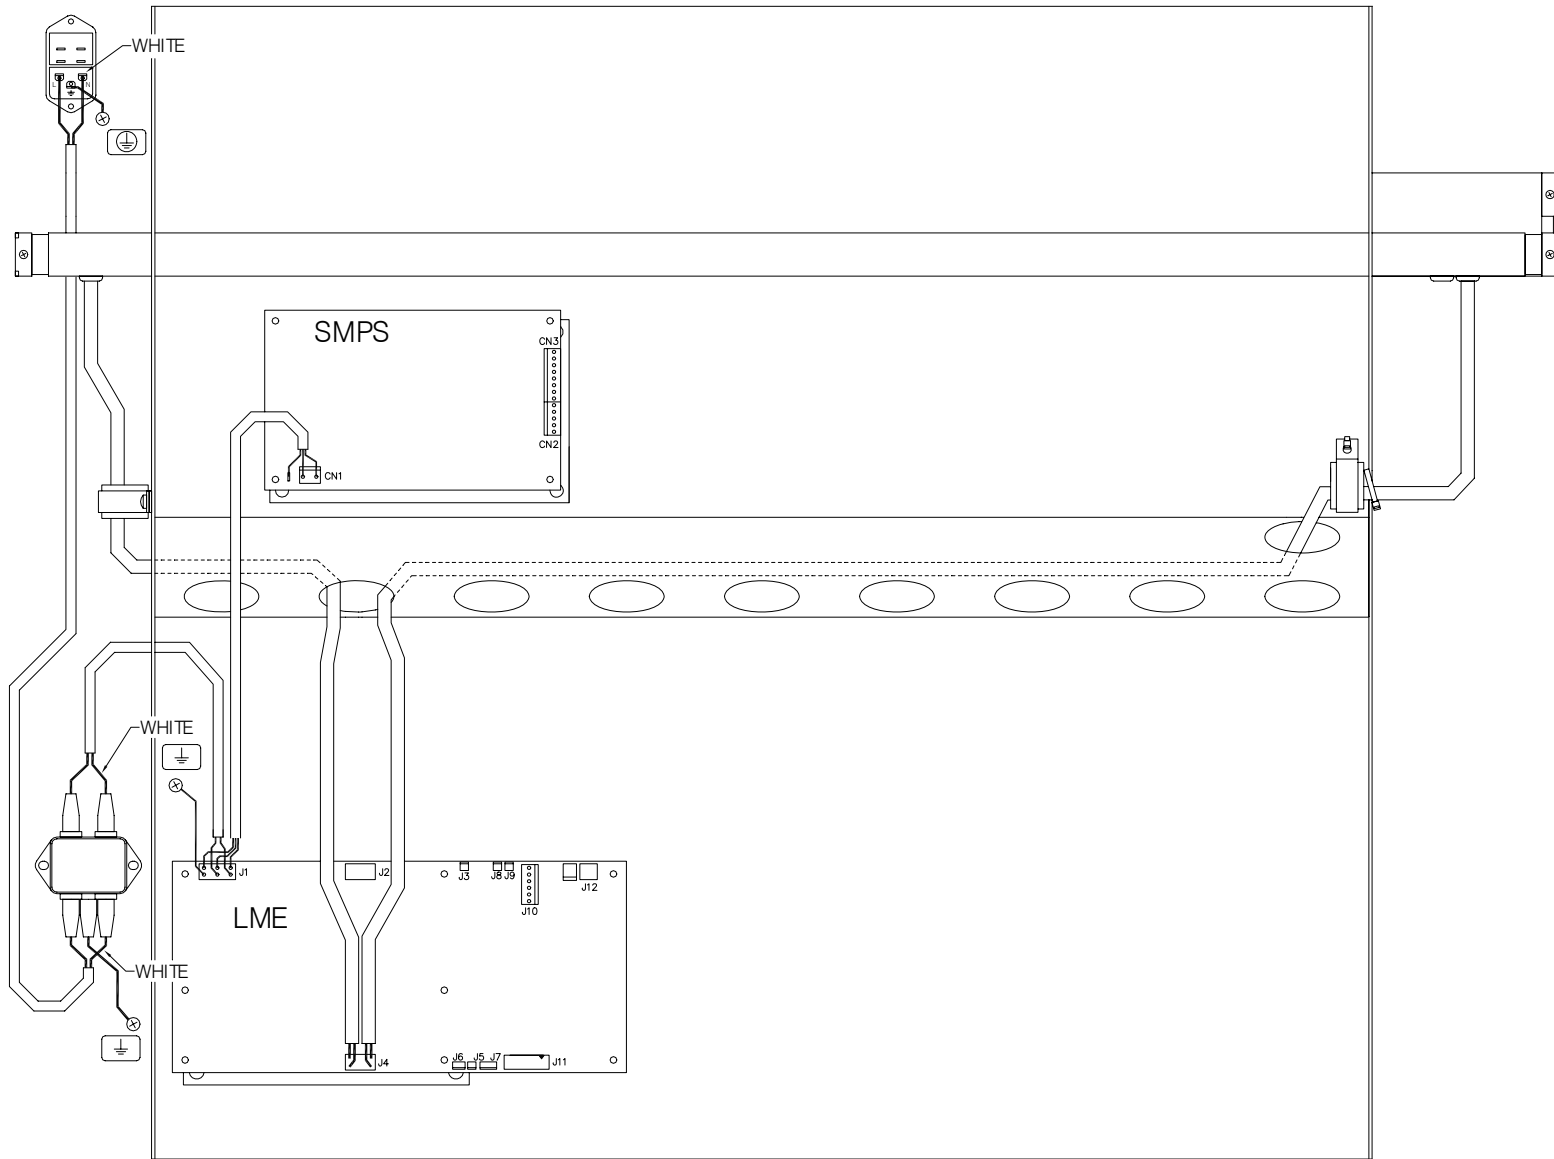

Fig. 11-3 CHAMELEON 25 Primary Wiring
- Fig. 11-3 CHAMELEON 25, Primary Wiring, page 181